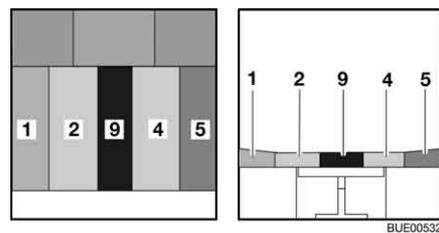

Fig. 93 After conversion
- Place the additional cushion (Fig. 93,9) between the seat cushions (Fig. 93,2 and 4).